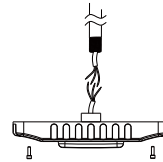

Figure 4
- 1.Connect the wiring to the local power supply in the 3/4"NPT Stem (Figure 4).